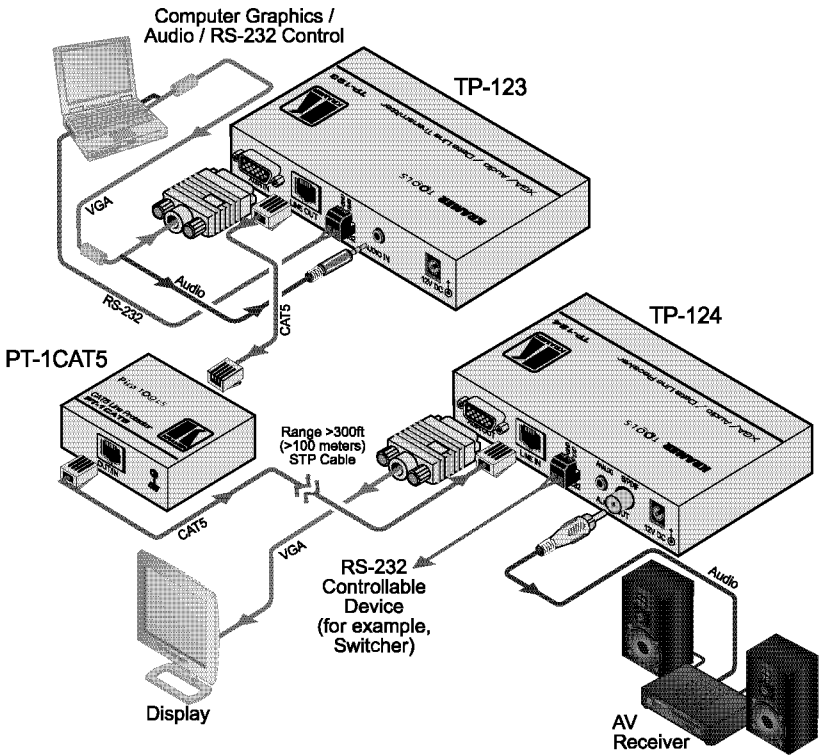

Figure 2: Connecting the PT-1CAT5
To connect the **PT-1CAT5**, between a Kramer **TP-123** transmitter and a Kramer **TP-124** receiver, as the example in Figure 2 illustrates, do the following:
3. Connect the grounding rivet to a grounding line1 (not shown in Figure 2).